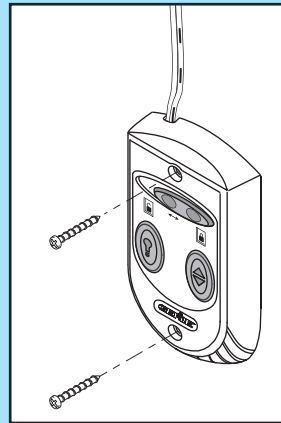

FIG. 3-4 Mounting Wall Control.
- Fasten Wall Control to wall with 2 screws (provided) (**Fig. 3-4**).